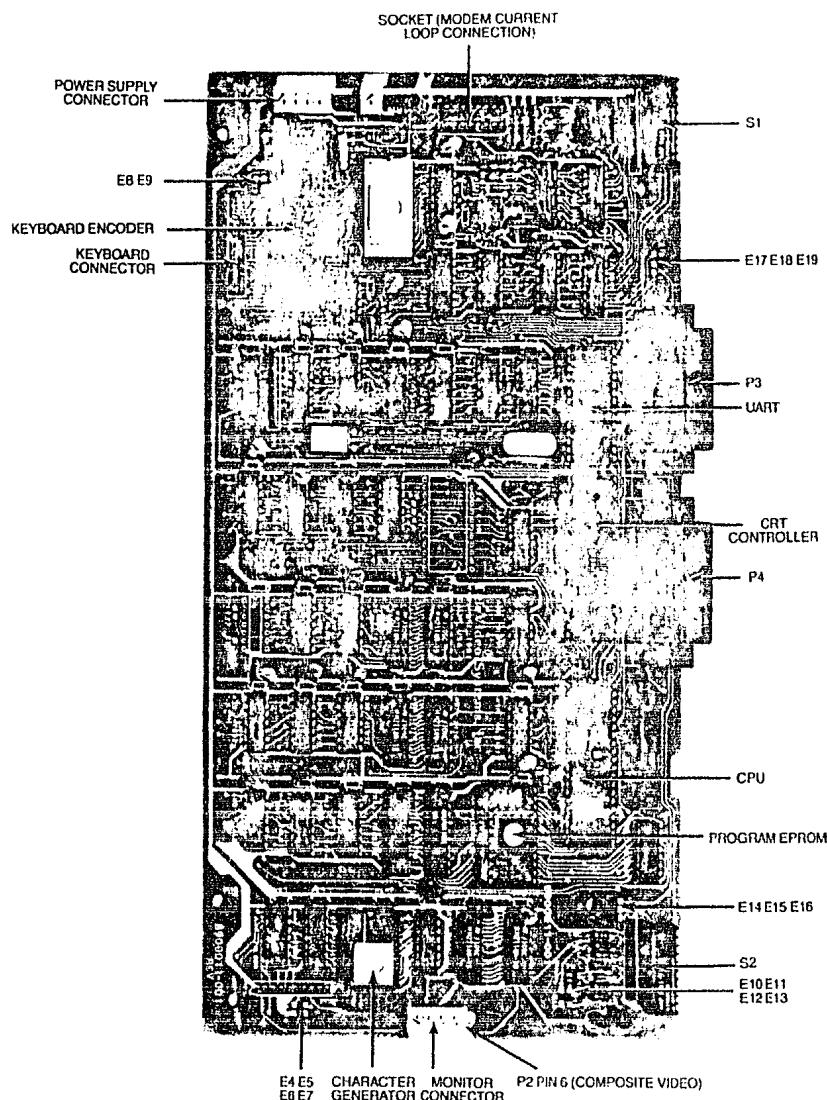
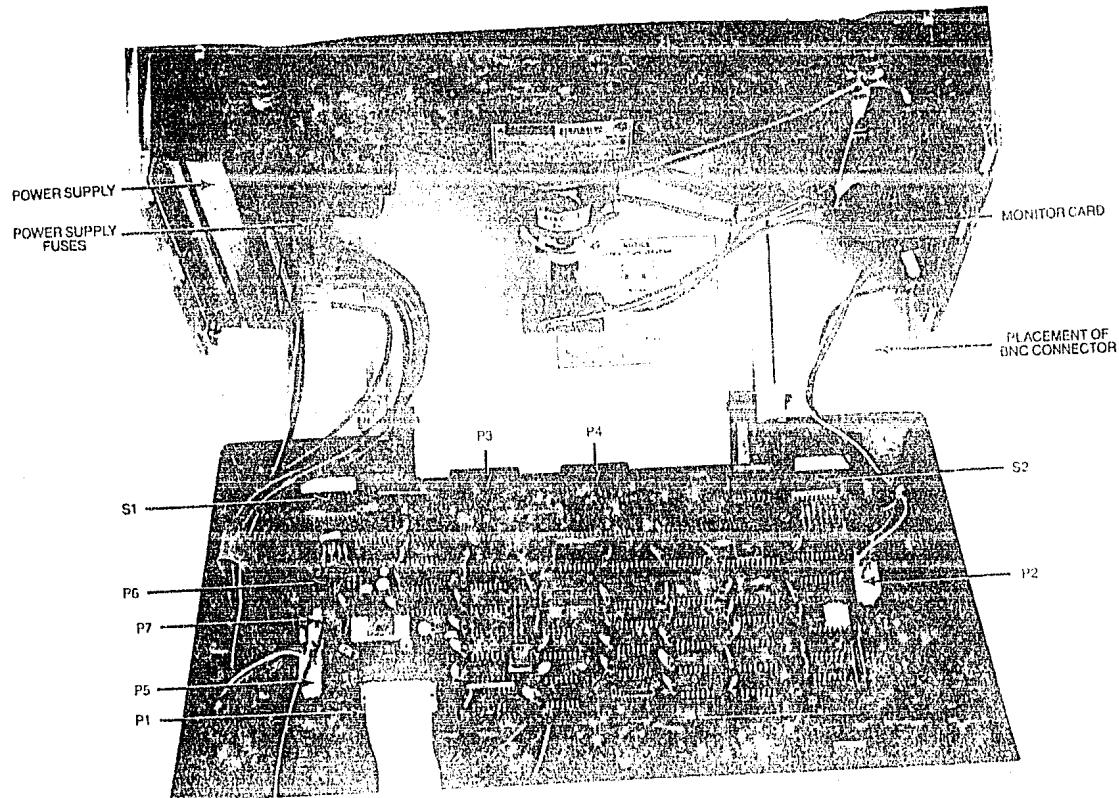

Figure 2-5 Logic Board
Figure 2-6 Interior of Terminal
2.4.4.3 Composite Video Jumper Option—To drive a monitor in addition to or other than the terminal monitor, modify the logic board (Fig. 2-5) by adding an Amphenol BNC connector (Part 227169-5) to the rear of the terminal case. (See Fig. 2-6 for recommended placement.)
(Refer to Figure 2-5)